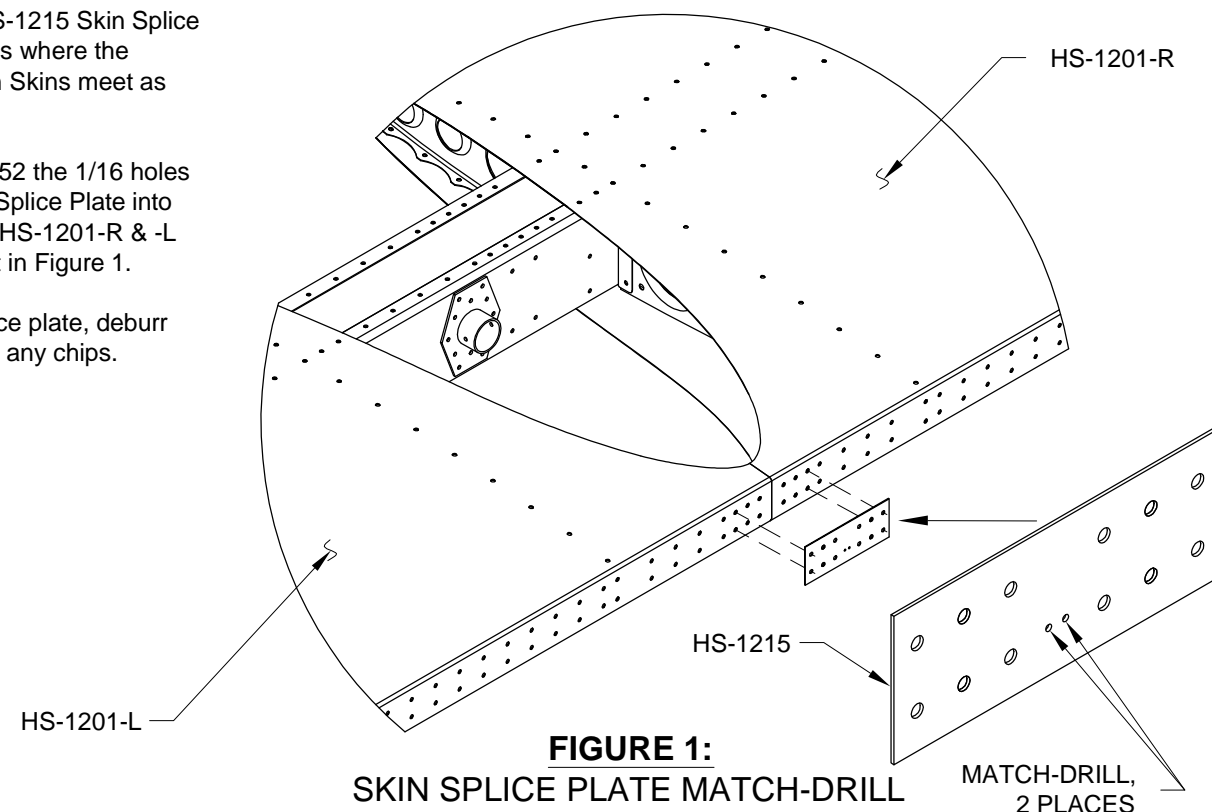

FIGURE 1:
Step 1: Cleco the HS-1215 Skin Splice Plate to the aft flanges where the HS-1201-R & -L Main Skins meet as shown in Figure 1.
Step 2: Match-Drill #52 the 1/16 holes in the HS-1215 Skin Splice Plate into the aft flanges of the HS-1201-R & -L Main Skins called out in Figure 1.